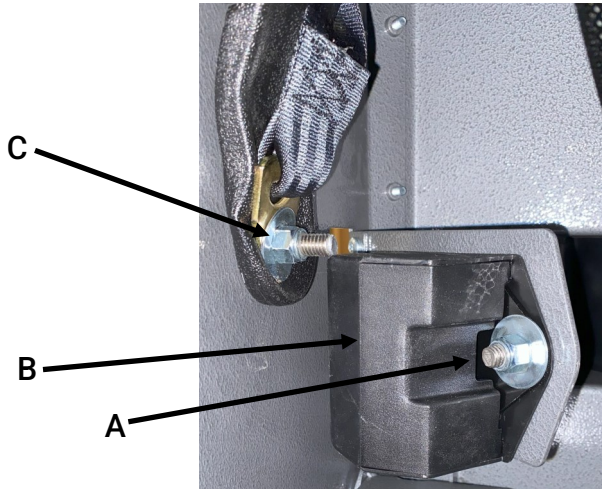

Figure 3
- A. Remove 3/8-16 nylon lock nut and washer from Leg Restraint Retractor. (Fig. 3)
- B. Remove Leg Restraint Retractor from stud on leg retractor bracket, then feed leg restraint belt and handle through the opening on side of chair. Discard Leg Restraint Retractor. (Fig. 3, 4) Replacement will be covered in a later section.
- C. Remove 3/8-16 nylon lock nut, washer, and buckle ends from stud in each side of chair. (Fig. 3) Pull the Shoulder Restraint Buckle and Waist Restraint through the top side of the chair and discard. Do this for both sides.